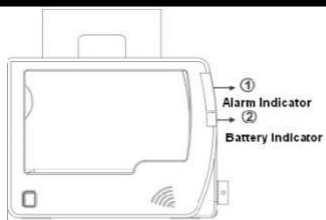

Figure 2-3 Indicators of F1 Station
There are two indicators for the alarm and the battery in F1 station. When an alarm occurs, the alarm indicator of the station flashes corresponding to the monitor’s alarm indicators (Figure 2-3^①). The battery indicator is green when the battery is fully charged, otherwise it is orange. If the battery is not charged for any reason, the battery indicator will flash orange (Figure 2-3^②).